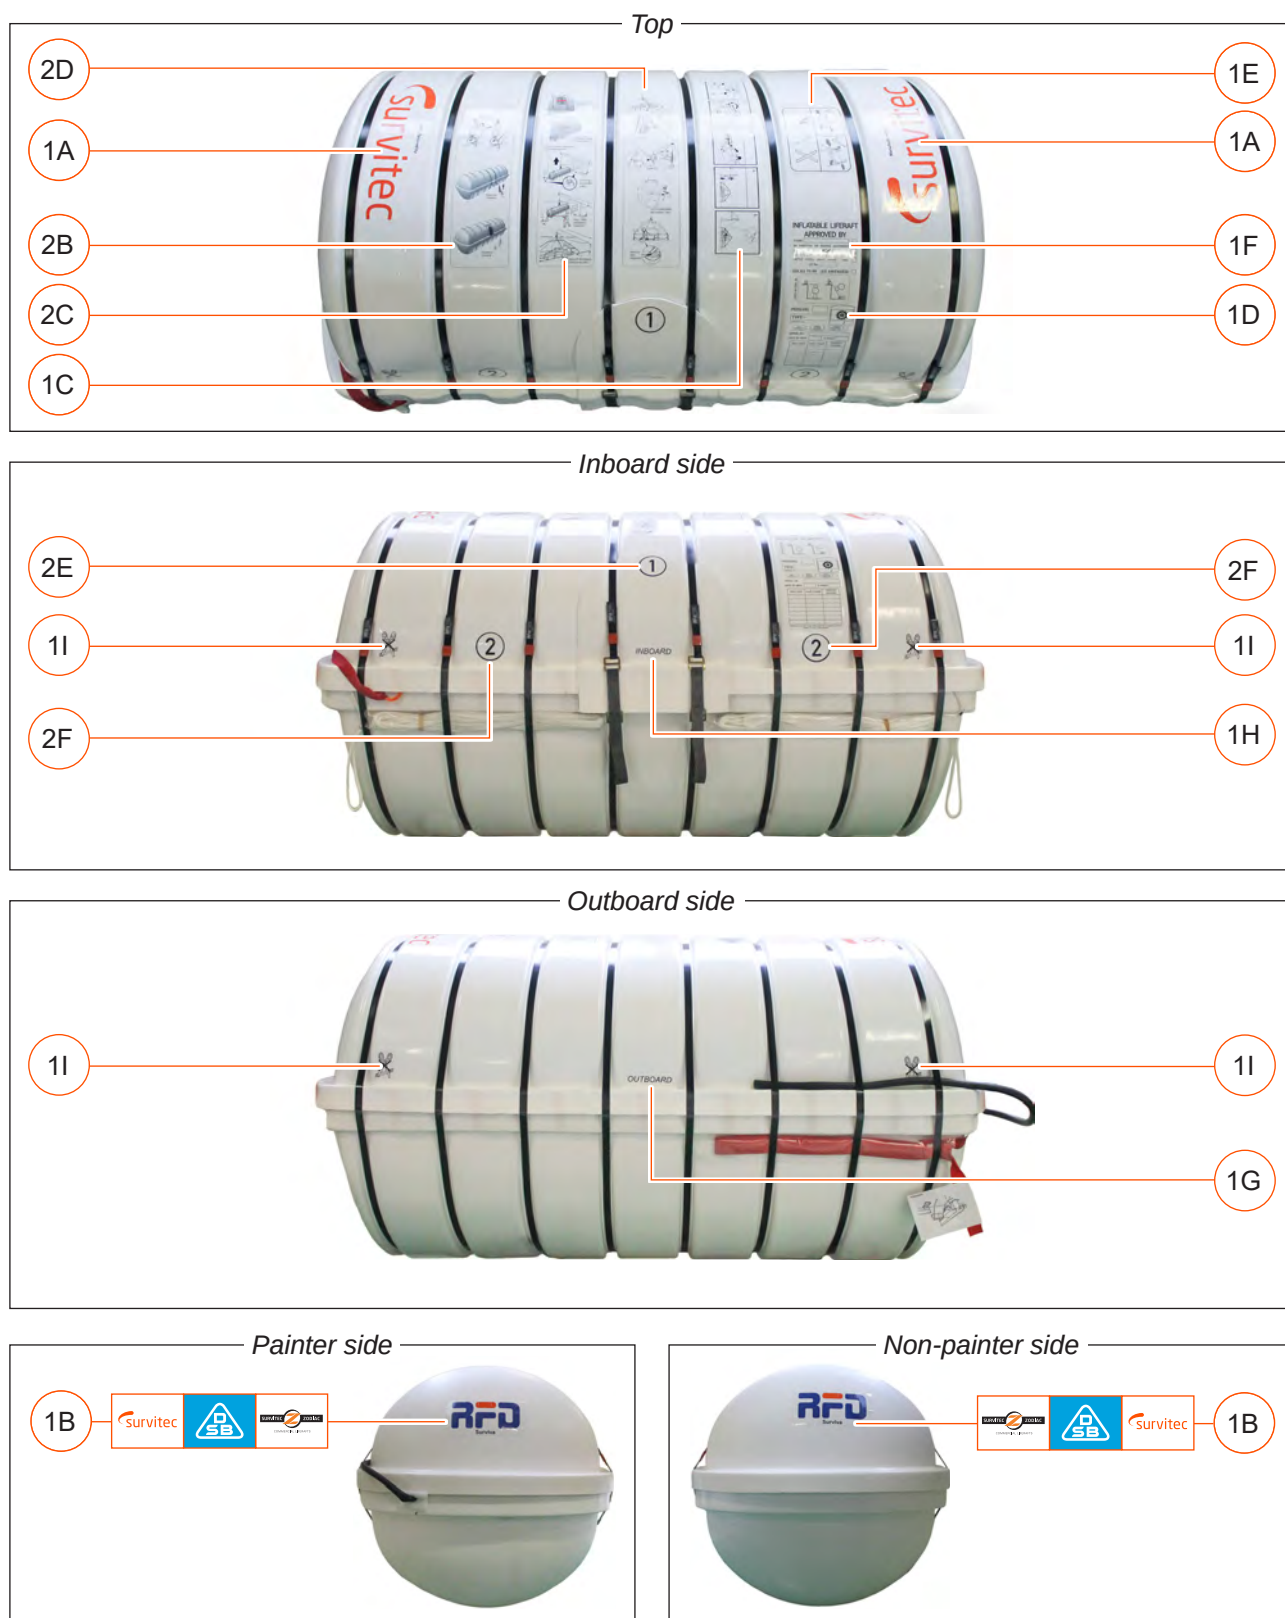

Figure 19
- Mk 14 size 17. Refer to **Figure 19** for label positions.